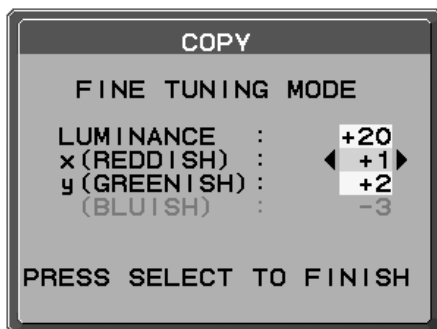

Figure C.6
10. At the FINE TUNING MODE message (**Figure C.6**), press SELECT if the copy result is satisfactory. If the copy result is unsatisfactory, manually fine tune the white point using the “LEFT” and “RIGHT” buttons, and press SELECT.